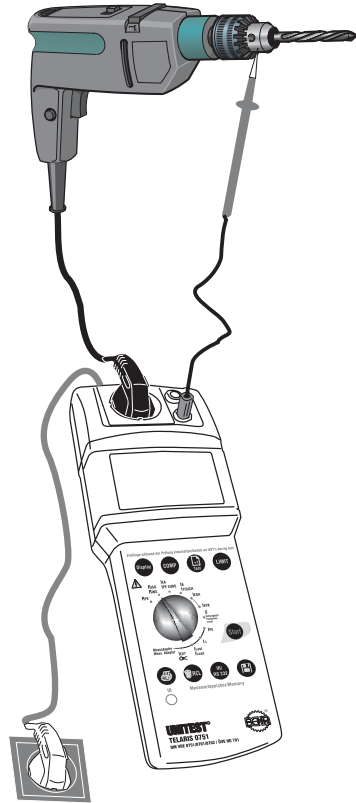

Figure 6.6: Insulation resistance measurement for appliances of protection class II
- ☞ For appliances of protection class II or III connect, in addition, the 'PE' socket (5) to all touchable, conductive casing parts of the UUT, please refer to Figure 6.6. This is also applicable for conductive parts of class I appliances which are NOT connected to PE.
- ☞ The measurement results can be saved by pressing the key "Store" (10). For references regarding the saving of measurement values, please refer to section 7.1 and 7.2.